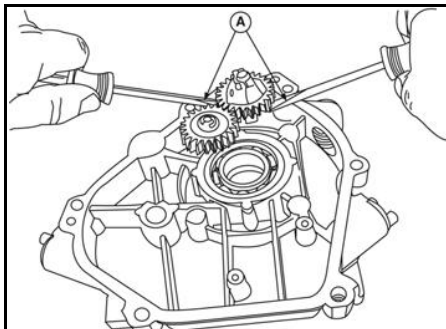

Figure 11
2. If wear or damage is found, remove the governor gear by carefully prying it off the spindle with two flat-bladed screw drivers (A, Figure 11). Discard the washer at the base of the spindle.